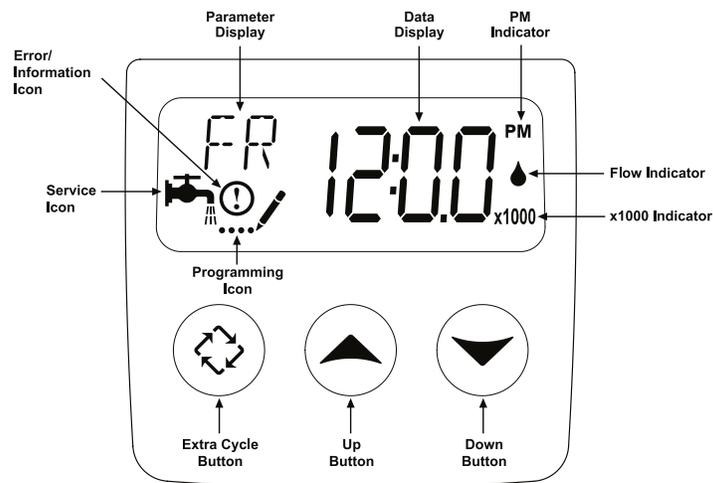

Figure 4B - DOWNFLOW
- i. Plug the 24-volt transformer into a 120 VAC 60 Hz outlet. This valve has four positions: 1) Backwash 2) Brine/Rinse 3) Rapid Rinse and 4) Brine Refill. When the valve is in the Service position, the *extra cycle* button (far left button as shown on Figure 4B) must be pressed and held for 5 seconds before it activates. Press and hold the *extra cycle* button for 5 seconds to advance the valve into the "1" Backwash position. Slowly turn on the water supply and allow the unit to backwash until the air purges out of the tank and clears the system.